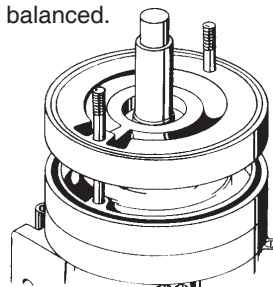

Figure 4-8
- Slide another left hand channel ring (#10) into place with the water channel facing up.(refer to figure 4-8) This time, however, place the large inlet opening in the "five o'clock" position. By locating successive stages 180 degrees from the last, hydraulic loads are radially balanced.